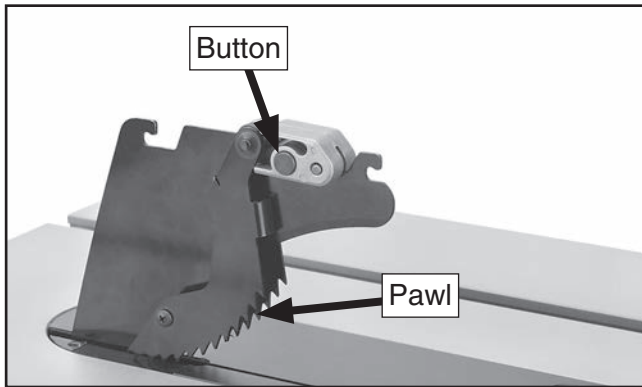

Figure 67. Button for removing pawls.
2. Press the button (Figure 67) on the block that holds the pawls, then remove the pawls from the spreader.
3. Press the button on the pawl block shown in Figure 67, then pivot the pawls down until they lock into place.